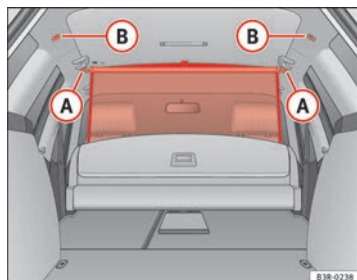

Fig. 121 Retainers for the partition grille
- Engage the ends of the bar in the retainers **(B)** ⇒ fig. 121.
- Engage the ends of the bar in the retainers **(A)** ⇒ fig. 121.